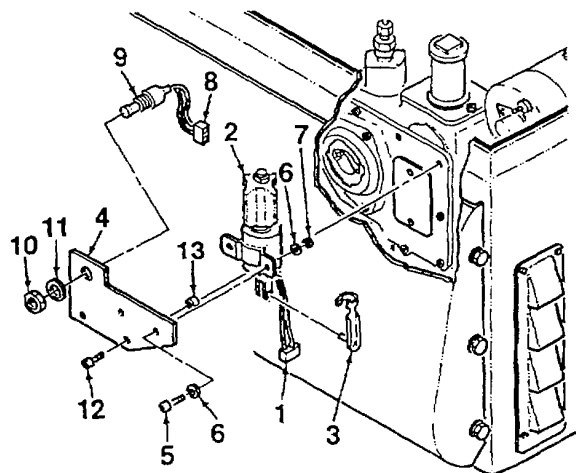

Figure 4-35. Solenoid and Start Switch
2. Disconnect solenoid electrical connector (1, Figure 4-35).
3. Open oil filter access door. Depress top of solenoid (2). Disengage and remove clip (3) to release solenoid from engine throttle control.
4. Remove solenoid (2) from mounting bracket (4) by removing two screws (5), lockwashers (6), and nuts (7).
5. Tag and disconnect manual start switch electrical connector (8).
1. Install mounting bracket (4, Figure 4-35) onto engine using two screws (12) and spacers (13).
2. Install manual start switch (9) onto mounting bracket (4) using nut (10) and star washer (11).
3. Mate solenoid (2) to mounting bracket (4). Secure by loosely installing two screws (5), lockwashers (6), and nuts (7). Do not tighten at this time.
5. Once mated, insert pin on clip (3) into engine throttle control and solenoid (2). Depress top of solenoid and snap clip into place to secure. Adjust solenoid as required in accordance with paragraph D.
1. Manually operate solenoid (2, Figure 4-35) to ensure that linkage moves freely. Tighten screws (5) and nuts (7) to securely fasten solenoid to mounting bracket (4).
2. Depress top of solenoid (2) until it reaches maximum travel length and stops. Throttle lever shall be 1/32 inch from the mechanical stop on engine.